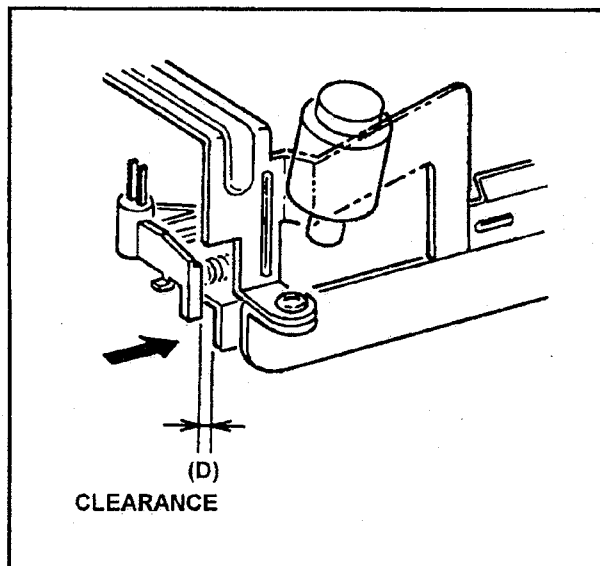

Fig. M21
2. Observe the clearance (D) between Cleaning Arm Unit and Cleaner Base Plate as shown in Figure M21. And make sure that it is within 0.5 to 0.7mm.
3. If not, loosen the 2 screws (A) and adjust the position of Cleaner Solenoid Unit by moving to arrow direction (C ⇄ C) with eccentric driver so that the clearance (D) is within specification, And tighten the 2 screws (A).